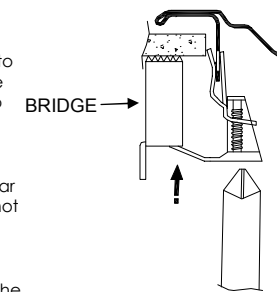

Fig 6
13. Tighten the clips in an order similar to fig. 6 to ensure the sink does not skew or rotate whilst it is being fixed. **Do not** use an electric screwdriver, this will over tighten the screws and could damage the sink.